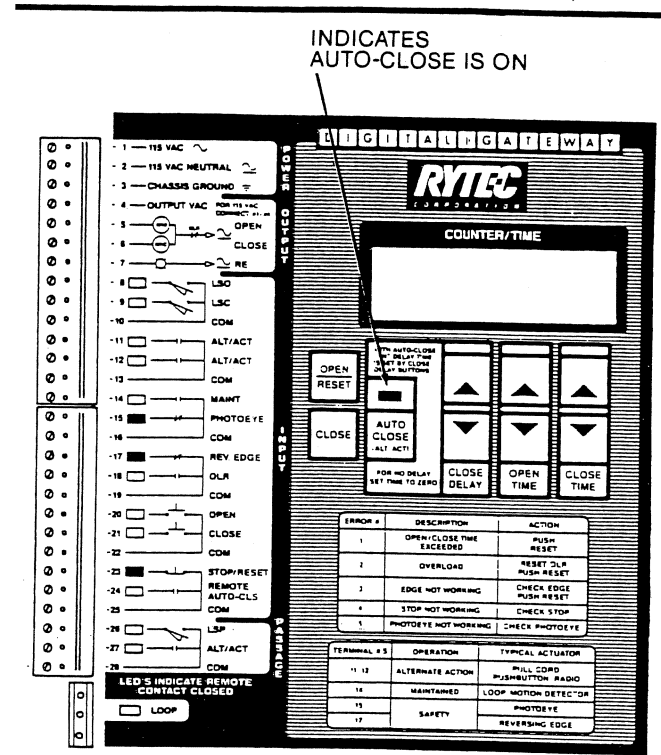

Figure 7.
1.14 If a second close delay timer is needed, the Auto-Close timer can be used for alternate action inputs. Set the auto close delay by turning on the auto close function. Press the Auto-Close button. The LED should be on. Then set the delay time using the close delay buttons. See Figure 7. If no time delay is required, set the timer to 0.